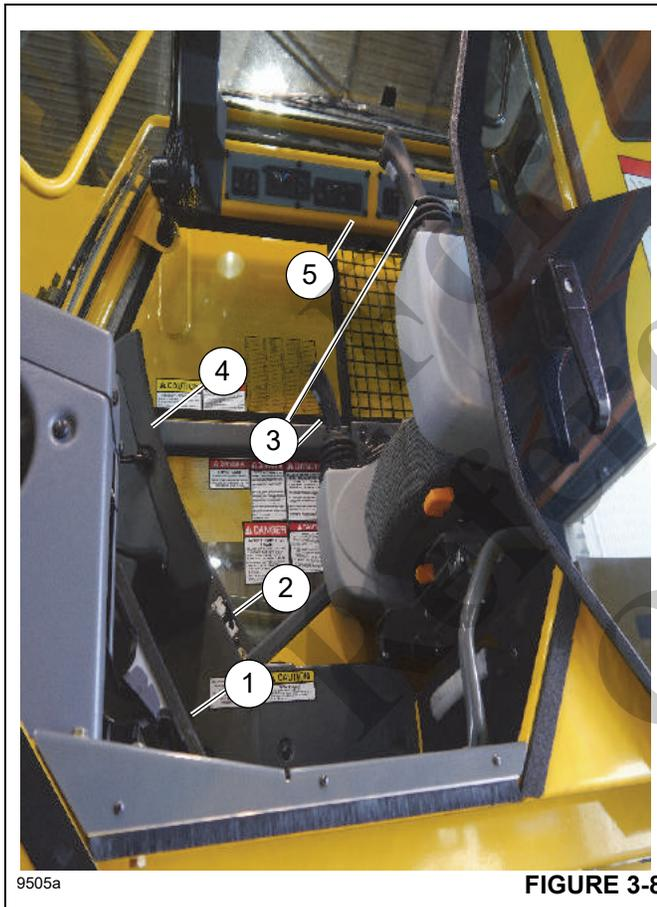

FIGURE 3-8
All the controls and indicators to operate and monitor crane functions are found inside the crane superstructure cab (Figure 3-8).
For a description of the foot pedals (1), (Figure 3-8), refer to Foot Pedal Controls, page 3-25.
The Turntable Swing Lock Pin Control Handle (2), (Figure 3-8) is located on the lower right console. When the control handle is pushed down and the superstructure is directly over front of carrier, the swing lock pin drops into the socket on the carrier frame, locking the superstructure in place. When the control handle is pulled up, the pin is pulled out of the socket, unlocking the superstructure.
The seat joystick and armrest controls (3), (Figure 3-8) are located on each side of the chair seat. The armrest contains the joystick controls and switches. Refer to *Right Hand Arm Rest Controls*, page 3-27 and *Left Hand Arm Rest Controls*, page 3-27.
The Operator Display Module (ODM) and Rated Capacity Limiter Display Module (RDM) Panels (4), (Figure 3-8) are located to the right of the cab. For more details on the ODM and RDM, refer to Operator Display Module and Rated Capacity Limiter Display Module, page 3-33.
The Superstructure Overhead Control Panels (5), (Figure 3-8) are located overhead to the right side of the superstructure cab. Specific items located on the overhead control panels can be found in Figure 3-18.